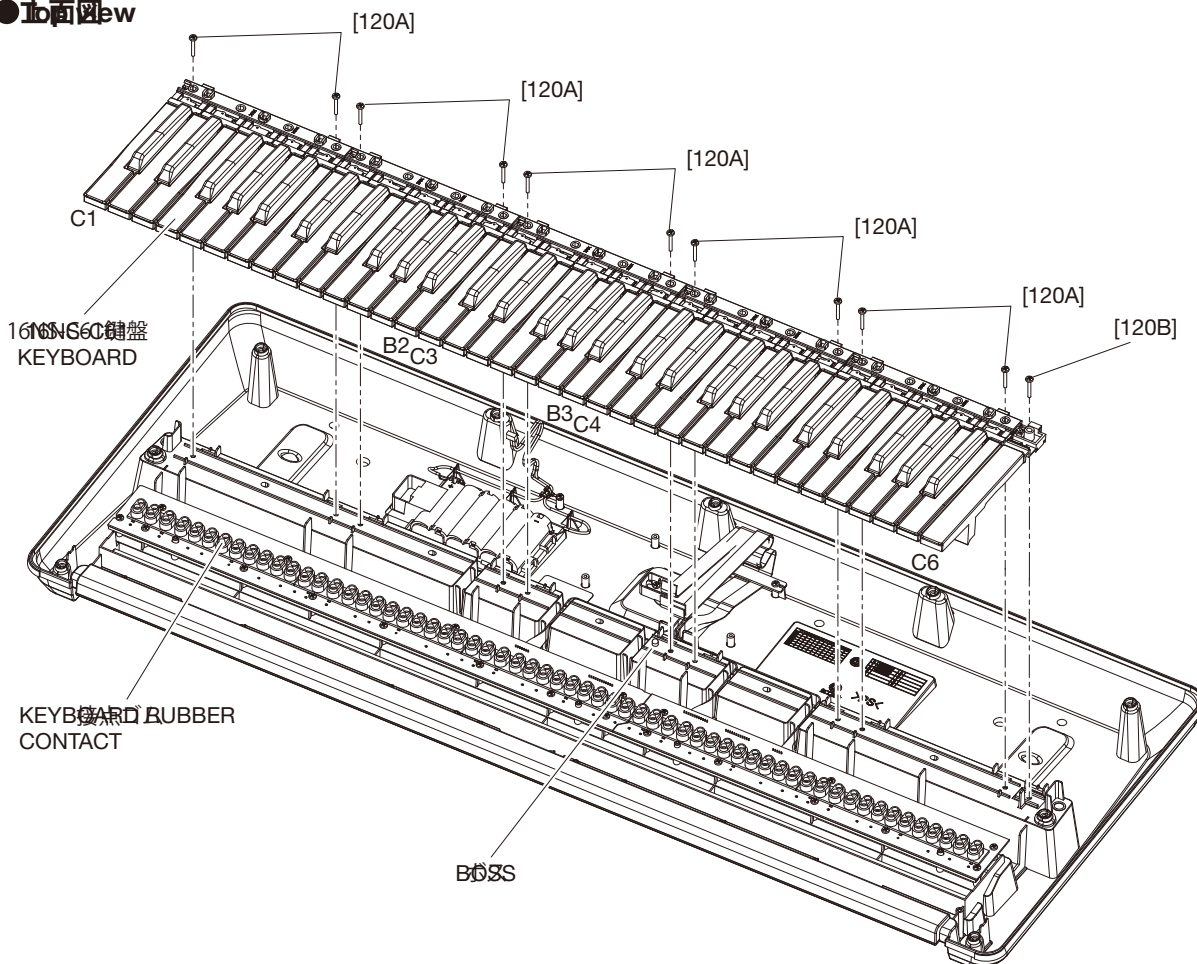

Fig.6
1. The white and black keys are grouped in single octave sets starting from the left side and consist of a total of five sets. Only the C6 white key, unlike the other keys, is not included in a set. (Fig.6)
2. To remove a set, remove the 2 each screws marked [120A]. The white and black keys in the set can then be removed. (Fig.6)
3. To remove the white key C6, remove the screw marked [120B], unhook as described in previous procedure, and pull out toward you. (Fig.6)
* *To reassemble after all white and black keys have been removed, first, mount by aligning the C3 to B3 white and black keys with the boss, and then mount the remaining white and black keys. (Fig.6)*
1. Remove the white and black keys corresponding to the rubber contacts to be removed. (See Fig.6 and "●White keys and black keys" in procedure 7)
2. Remove the respective rubber contacts. (Fig.6)
1. Remove the C1 to B3 white and black keys. (See Fig.6 and "●White keys and black keys" in procedure 7)
1. Remove the C4 to C6 white and black keys. (See Fig.6 and "●White keys and black keys" in procedure 7)